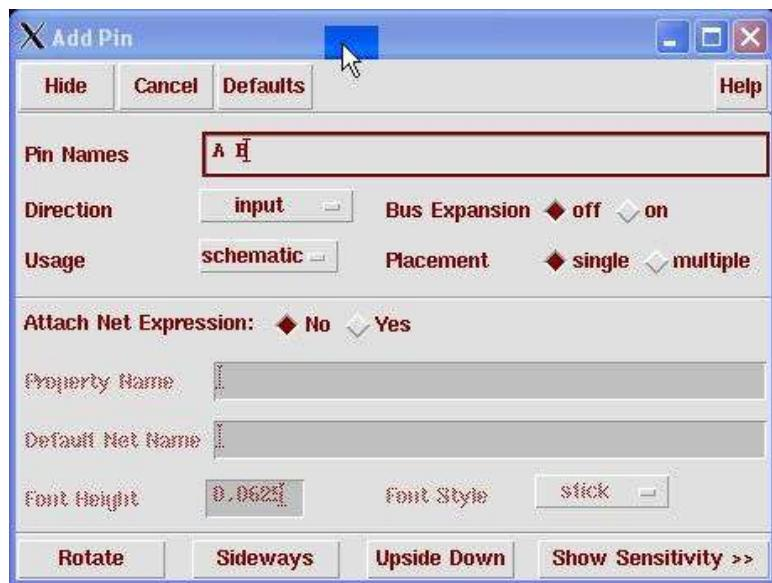

Figure 3.6: Add Pin dialog box
6. Adding Pins: Pins are connections that enter or leave this schematic sheet. They are called pins because they will correspond to pins on the symbol view of this schematic. Pins can be added by going to **Add → Pin** from the menu, or pressing **P**, or selecting the “Add Pin” widget from the left side of the **Composer** window to get the **Add Pin** dialog box (Figure 3.6). For example, to put two input pins A and B, we can fill in the Pin Names field as A B (with a space) and the Direction list as input.